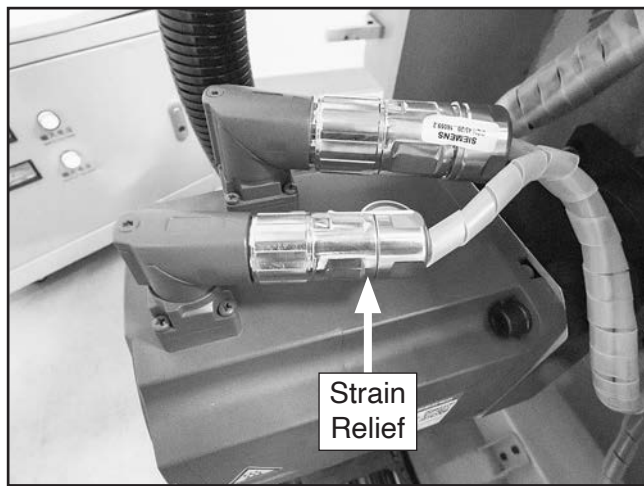

Figure 38. Servo motor electrical connections.
5. Connect (2) servo driver electrical connectors to matching receptacles on servo motor (see **Figure 38**).